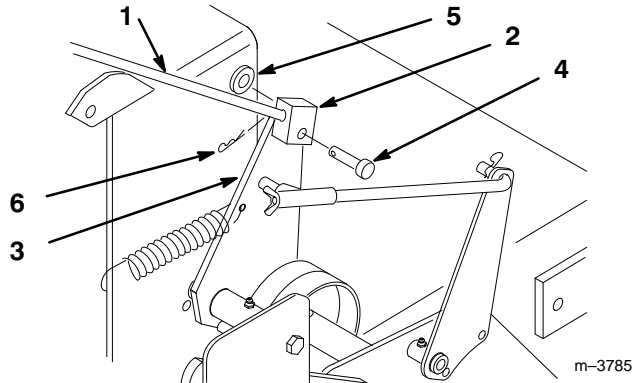

**Figure 4**
6. Insert terminals into plastic plug until the clips snap into position (Fig. 4). If they do not snap turn around.
7. Push plug onto switch so latch interlock (Fig. 4).